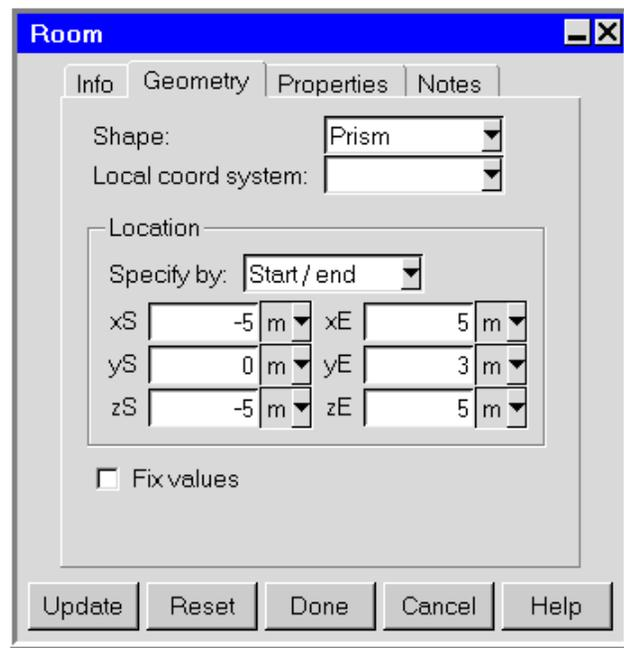

Figure 7.2.3: The Room Panel (Geometry Tab)
- Select or specify a local coordinate system for the room in the Room panel (Figure 7.2.3).
- You can reposition the room along the x , y , and z axes by selecting **Start/end** in the drop-down list in the room Edit window (Figure 7.2.1) or in the **Specify by** drop-down list in the Room panel (Figure 7.2.3) and modifying the starting point (x_S , y_S , z_S) and ending point (x_E , y_E , z_E) of the room. Alternatively, you can modify the starting point (x_S , y_S , z_S) and the lengths of the sides (x_L , y_L , and z_L) of the room if you select **Start/length** in the **Specify by** drop-down list in the Room panel or in the drop-down list in the room Edit window.